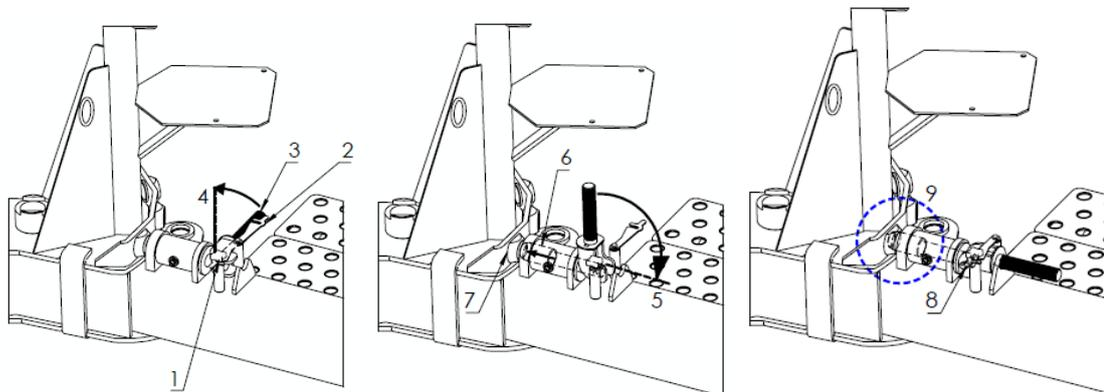

Figure 21. Locking the drawbar position
Mount the mechanical lock of the hitch position (Fig. 21)
- Put a wedge (1), which is supplied in the drawbar holder, under the right wheel of the Bale Wrapper
- Move the tractor slowly forward (3) until the drawbar reaches its extreme position (4).
- Set the lock of the drawbar position again (Fig. 21)